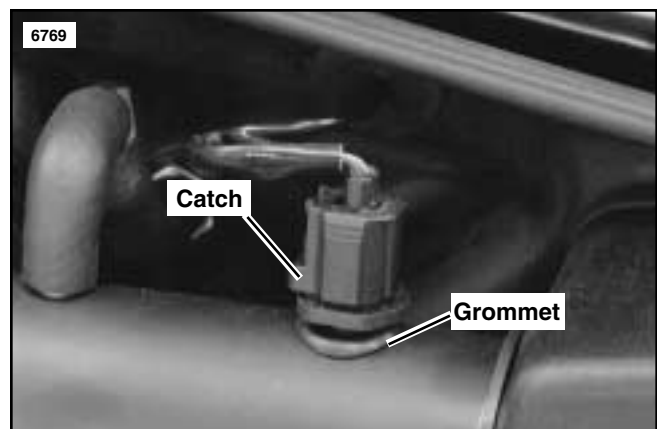

Figure 5. Model S3 Stock IAT Sensor
- a. See Figure 5. Press the catch on the intake air temperature (IAT) sensor.
9. For S3 Models, see Figure 5. Carefully remove IAT grommet from snorkel.